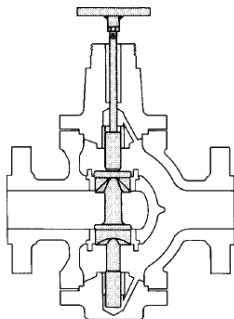

figure 5
- H. Insert two or three pieces of packing (17) into the packing box to assist in guiding the stem and plug during lapping.
- I. Screw a drilled and tapped rod with a tee handle onto the plug stem and secure with a lock nut. (See figure 5).